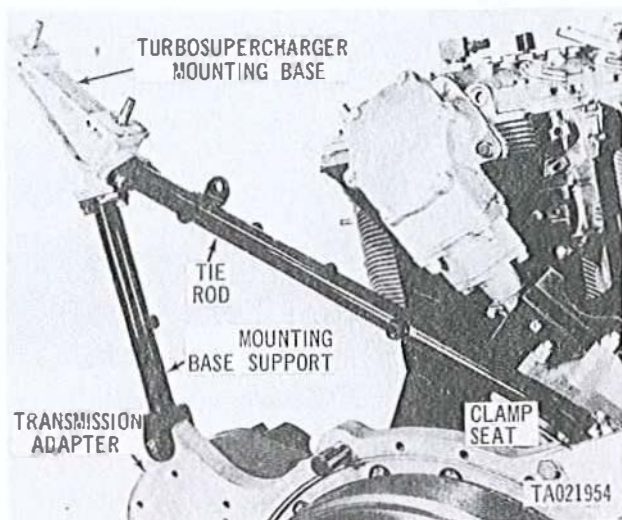

Figure 3-53. Removing or installing turbosupercharger mounting base, tie rod and base support.
a. Remove four capscrews and lockwashers and remove right turbosupercharger mounting base (fig. 3-53). Remove left turbosupercharger base in the same manner. Remove two capscrews, lockwashers and one tie rod clamp and remove tie rod,